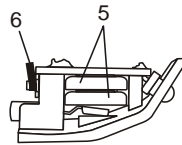

Fig. 12
5. Install two new CR927 button cells (5) to replace the button cells that have been removed (Fig 12).